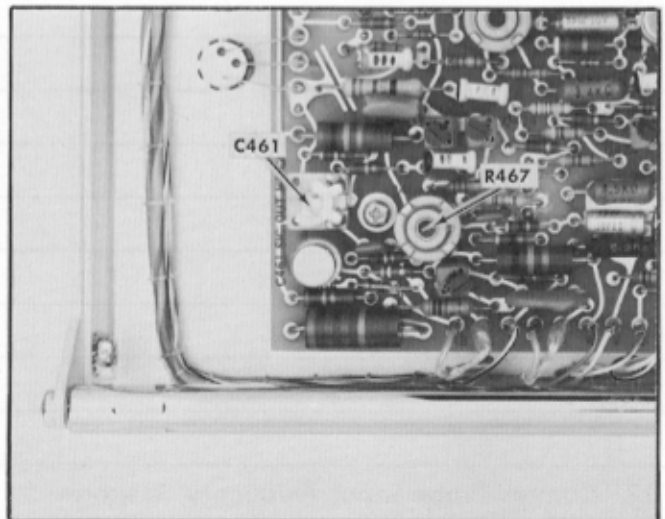
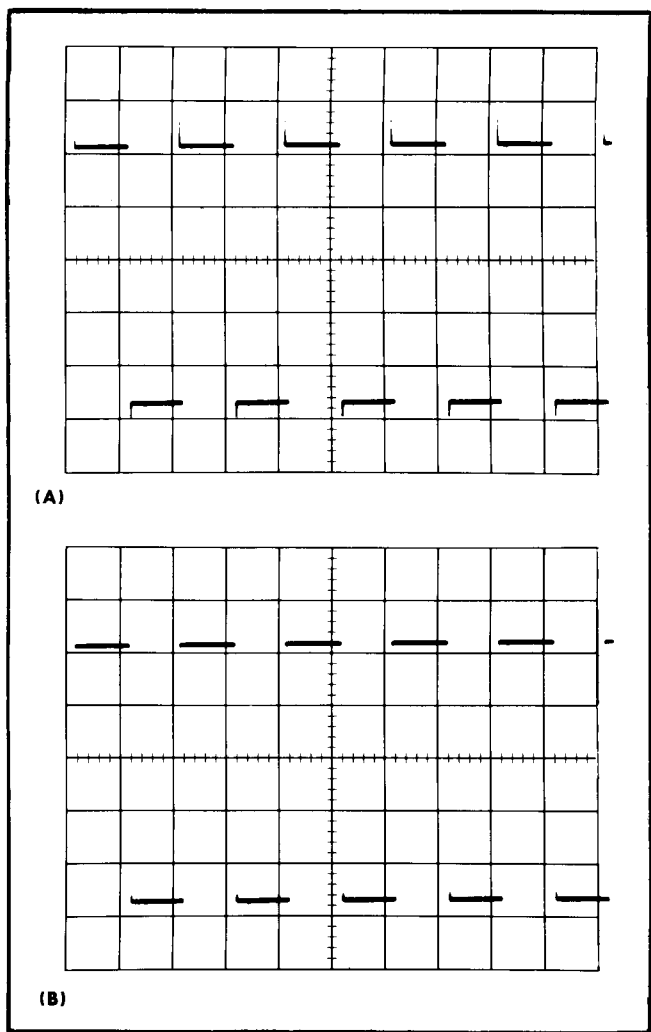

Fig. 5-35. Location of controls.
Fig. 5-37. Typical waveform showing (A) incorrect adjustment of C461 and (B) correct adjustment of C461.
- e. ADJUST—R467, Signal Out DC Level (Fig. 5-35) to return the Test Oscilloscope trace to graticule center (zero volts).
- d. ADJUST—C461, Sig Out HF Comp, (see Fig. 5-35), for optimum square wave response (Fig. 5-37).